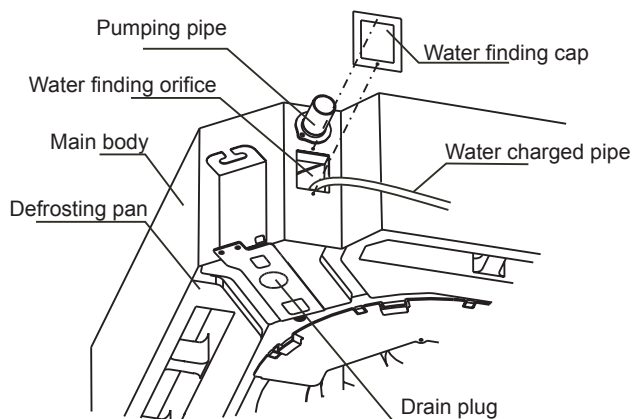

Fig. 5-3
1) Remove the water finding cap, charge 2000 ml water into a defrosting pan through the water orifice by a water charged pipe. (See Fig. 5-3)